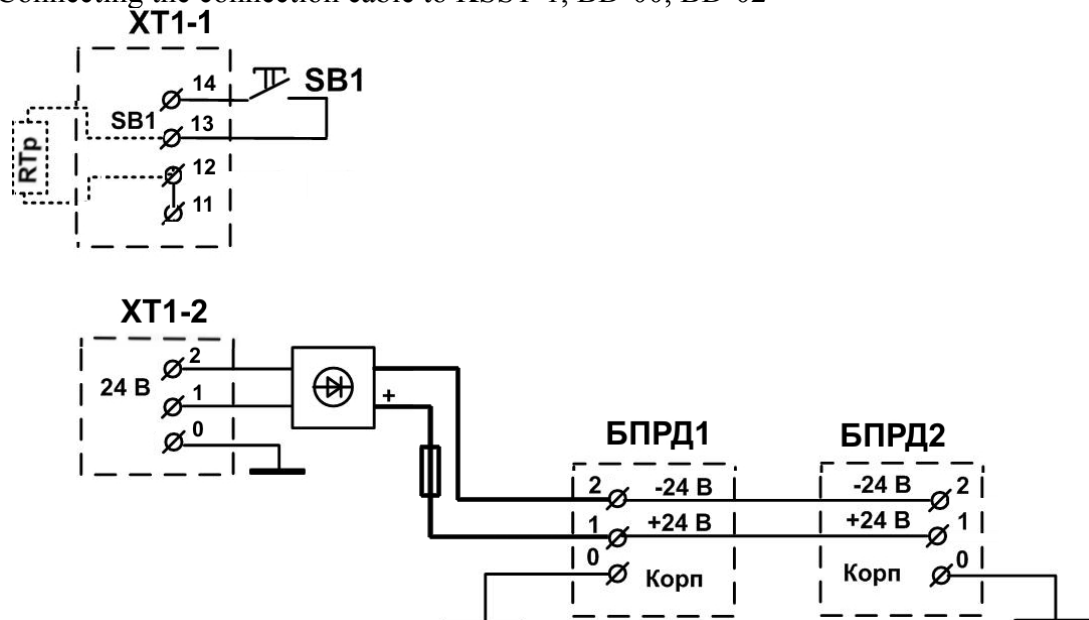

Fig. 10.11
10.7.2.1 Connect the wires of the connection cable (with CIU or concentrator) to contacts of the “XT1” terminals (see Fig.10.11). Place control resistor (RTp) into terminals 12 and 13. Connect the pair of control wires from CIU to terminals 11 and 14. If the ALARM circuit is monitored at terminal 11 without an external resistor (a jumper in terminals 12 and 13) it is necessary to limit the current to a value not exceeding 100mA (a current limiter can be installed instead of the jumper in terminals 12 and 13). Connect the pair of 24V wires from the power supply unit to the two “24B” terminals.
10.7.2.2 Carefully pack the cables in BD-00, BD-02, close cover 1 (Fig. 10.11), fix it using screws 2.